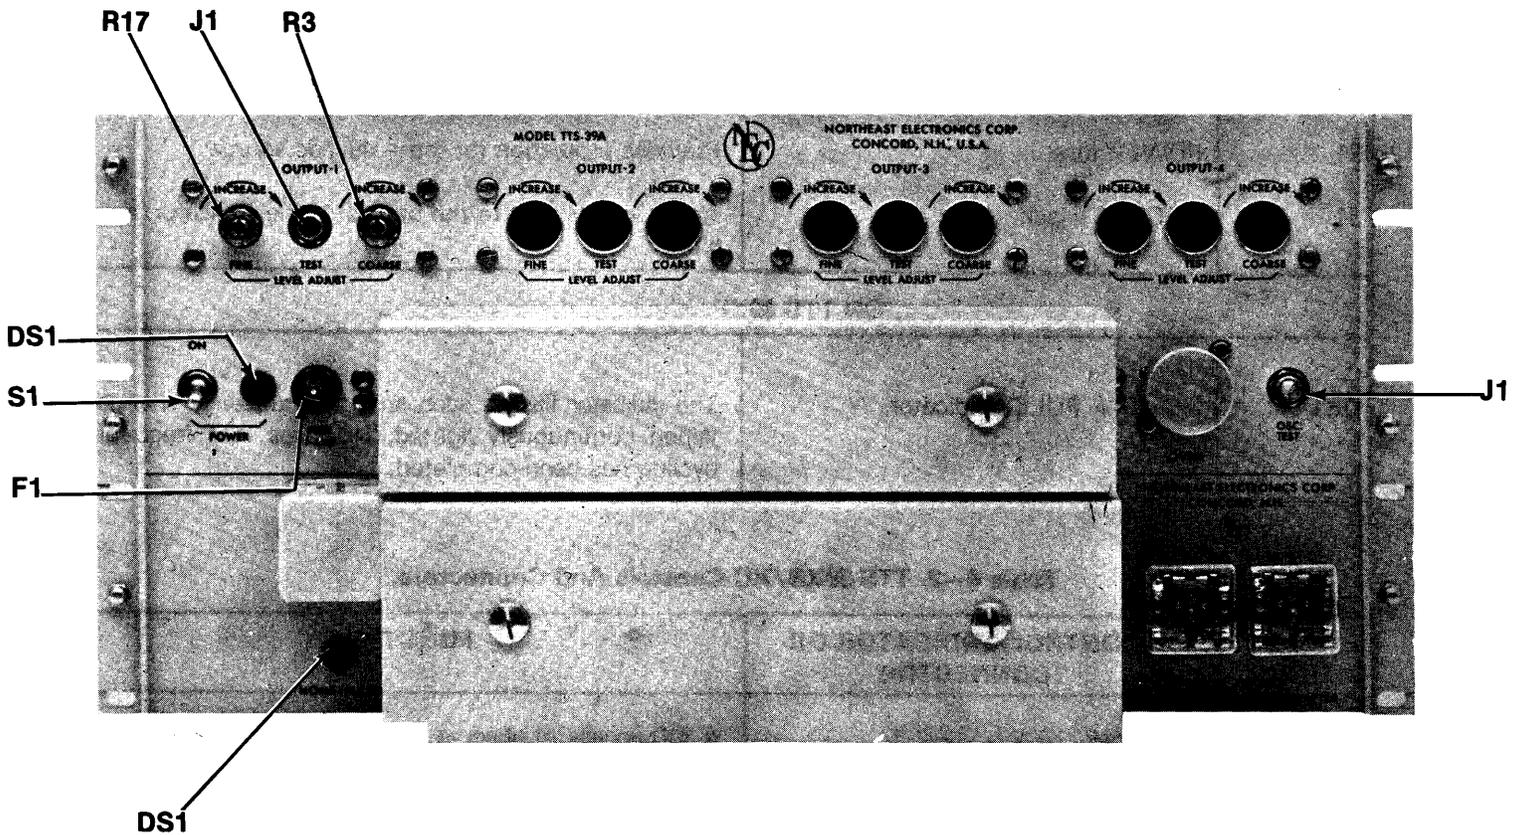

Figure 4-1. TTS 39 Series, Controls, Indicators, And Connectors.
4.4 Tables 4-1, 4-2, and 4-3 describe the controls, indicators, and connectors shown on Figure 4-1.